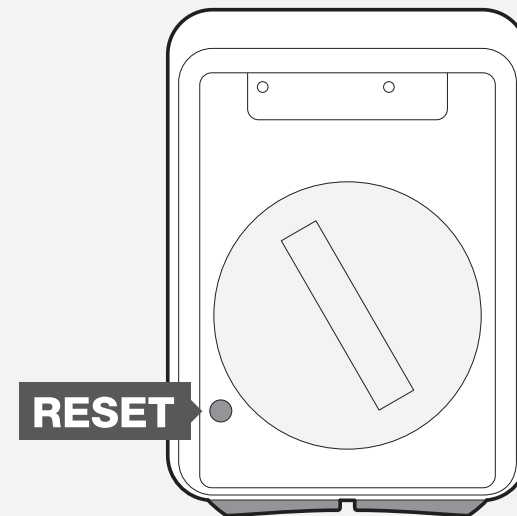

Figure 12. Reset Button
Hold the Reset button (AC) for two seconds (Figure 12). A ball point pen works well for this. The button is on the back of the computer.